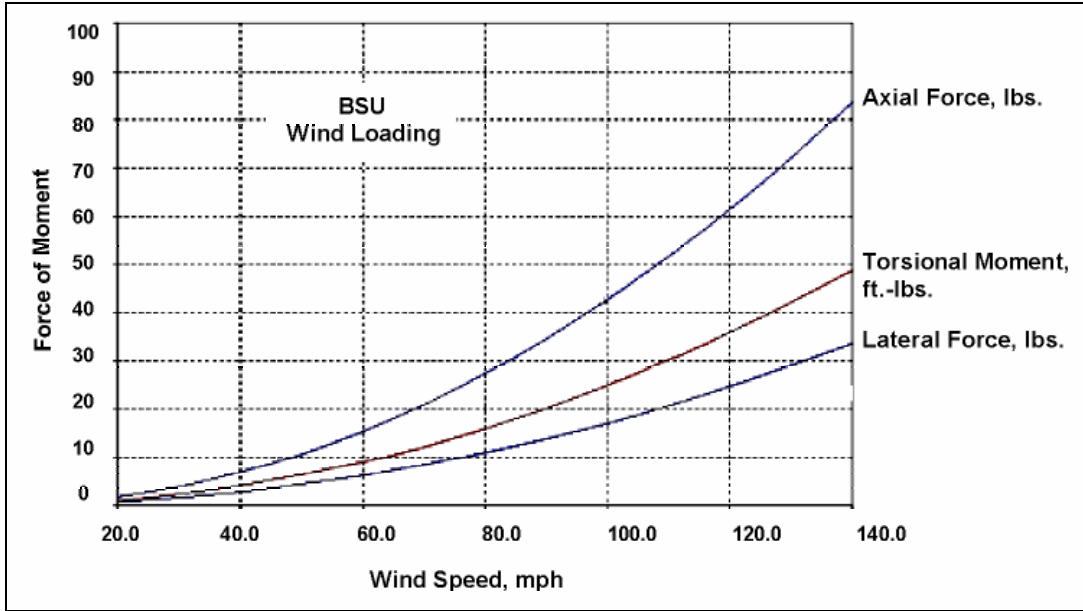
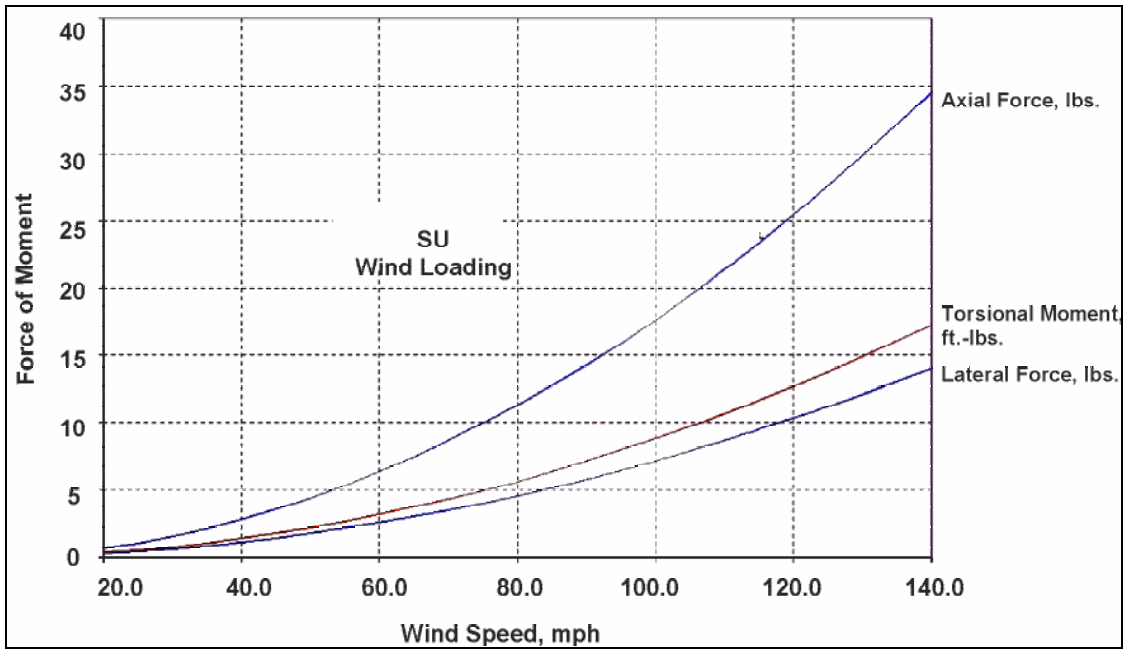

Figure 1. BSU Wind Loading Analysis
Figure 2. SU Wind Loading Analysis
The wind loading effect of the BSU and SU on their respective mounting masts is provided in Figure 1 (BSU) and Figure 2 (SU). The units of force in pounds can be converted to metric units by multiplying by 4.45 to obtain newtons, or by 0.45 to obtain kilograms of force. Similarly, foot-pounds can be multiplied by 1.36 to obtain Newton-meters, or by 0.138 to obtain kgm-meters.